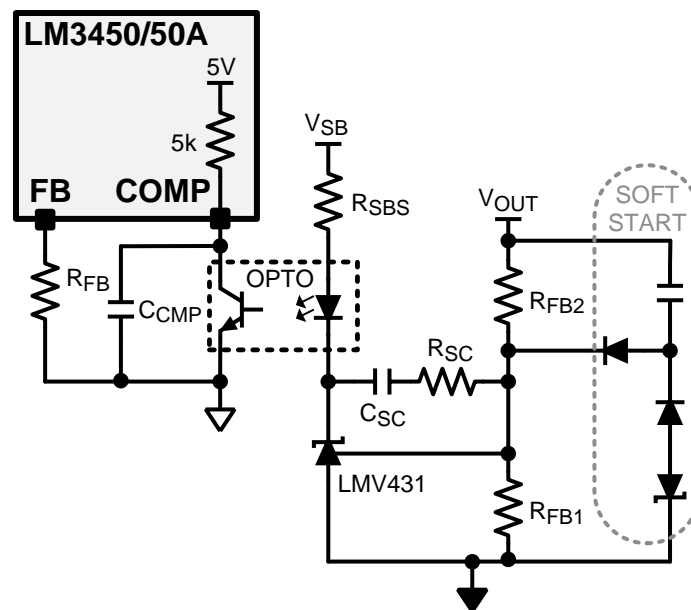

Figure 23. Secondary Error Amplifier
For isolated designs, the error amplifier on the secondary should take the form of a proportional integral (PI) compensator. The amplifier is frequently implemented with an LMV431. The output voltage resistor divider ( $R_{FB1}$ ,  $R_{FB2}$ ) provides the sensed output voltage to the LMV431 inverting input. The PI compensation is achieved by connecting  $R_{SC}$  and  $C_{SC}$  in between the LMV431 input and output, shown in Figure 23. In addition,  $C_{COMP}$  is placed from COMP to GND on the primary for higher frequency noise attenuation.
In addition to the basic error amplifier, a soft-start circuit can be implemented using a capacitor, two diodes and a Zener diode as shown in Figure 23. This secondary softstart circuit has no restart mechanism, therefore a primary side softstart is recommended as described in the SOFTSTART section of this document.